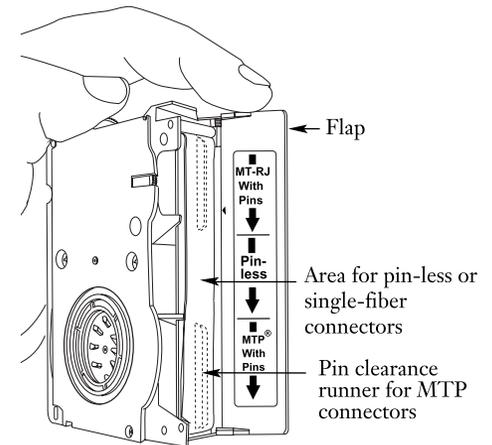

Figure 6-3
**6.2-4** Open the flap on the connector cleaning cassette. Note the two pin-clearance runners under the cleaning strip, and the corresponding connector designations on the flap label (Figure 6-3). The center portion of the strip is used for both single fiber and pin-less multifiber connectors.